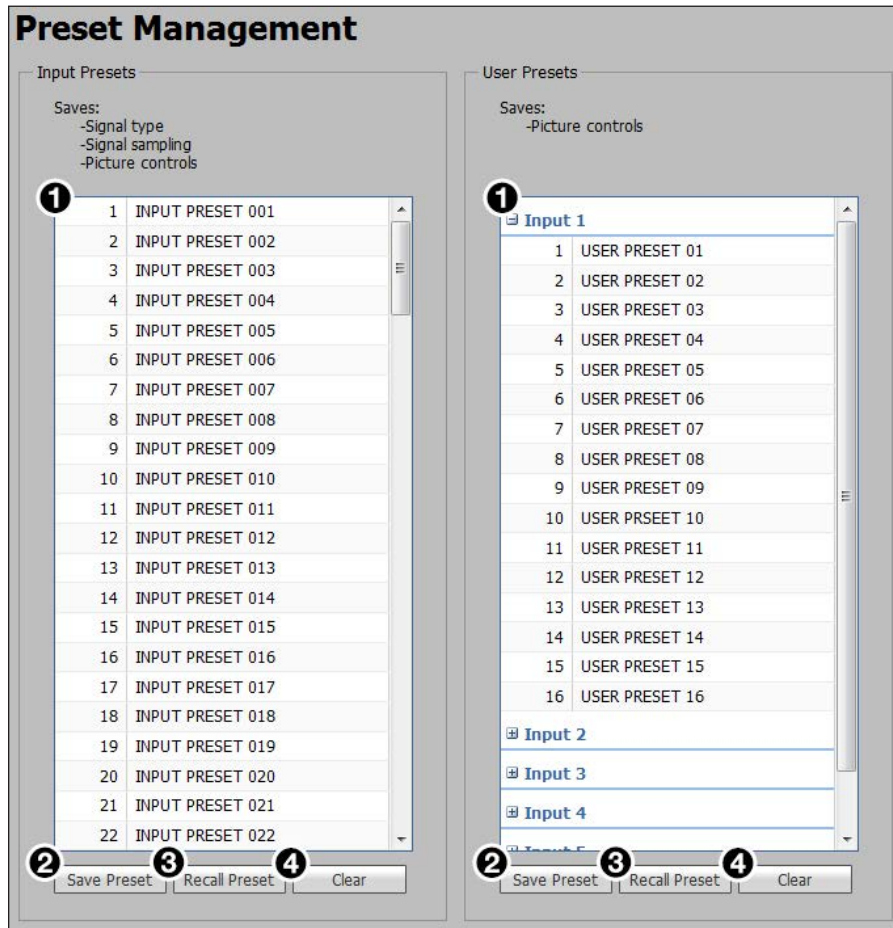

Figure 79. Preset Management Page
1. Select the input preset or user preset (see figure 79, ①) to store the current configuration.
2. Click the **Save Preset** button (②) located in the same **Input Presets** or **User Presets** panel. If the selected preset already has stored information on it, a confirmation dialog box opens.
1. Select the input preset or user preset (see figure 79, ①, on the previous page) to be recalled.
2. Click the **Recall Preset** button (③) located in the same **Input Presets** or **User Presets** panel. A confirmation dialog box opens.
1. Select the input preset or user preset (see figure 79, **1**) on the previous page) to be cleared.